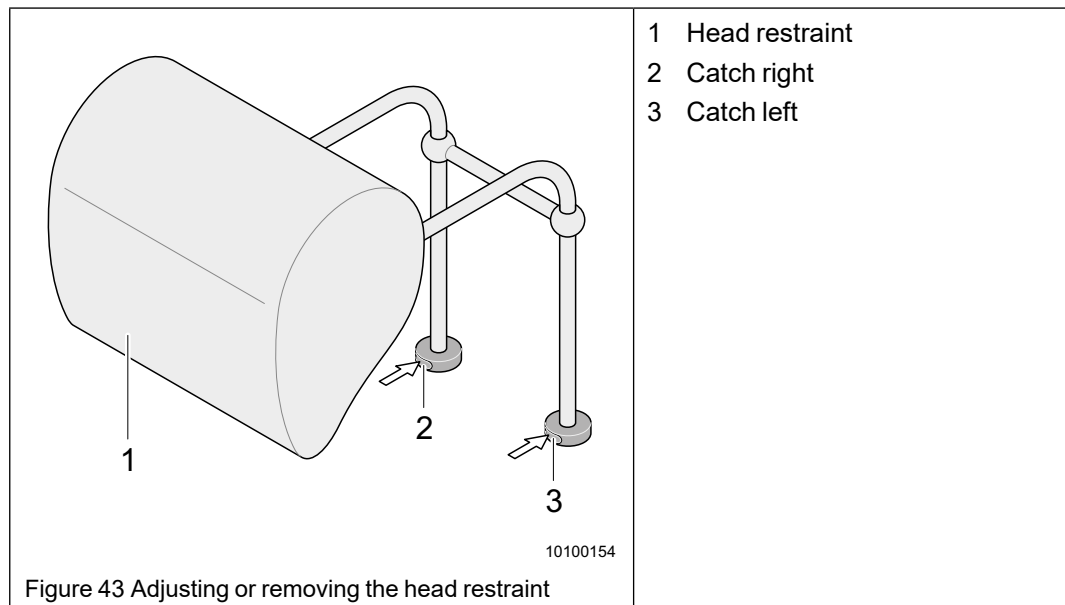

Figure 43 Adjusting or removing the head restraint
- ➔ Press and hold catch on the left side (Figure 43/3).
- ➔ With the other hand move the head restraint (Figure 43/1) into the desired position.
- ➔ To fix the head restraint (Figure 43/1) in position let go of the catch (Figure 43/3).
- ➔ Press and hold catch on the right side (Figure 43/2).
- ➔ With the other hand pull the head restraint (Figure 43/1) up out of the mounting.